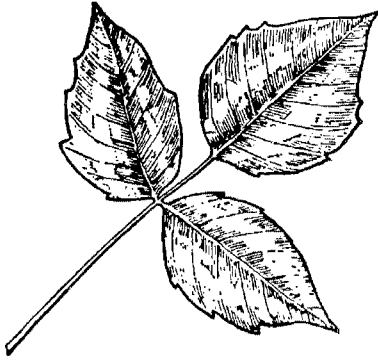

Fig. 21—Poison Ivy
- (1) Have the victim sit up with his head thrown slightly back, breathing through his mouth. Loosen his collar and anything tight around his neck.
- (2) Apply cold packs over his nose.
- (3) Pressing the nostrils together firmly for 4 or 5 minutes often stops the bleeding and gives opportunity for a clot to form.
- (4) Have the victim avoid blowing his nose for a few hours. If these measures do not stop the bleeding, a physician is needed at once.
- (a) **Types**—Ivy, oak, and sumac. (See Figs. 21, 22, and 23.)